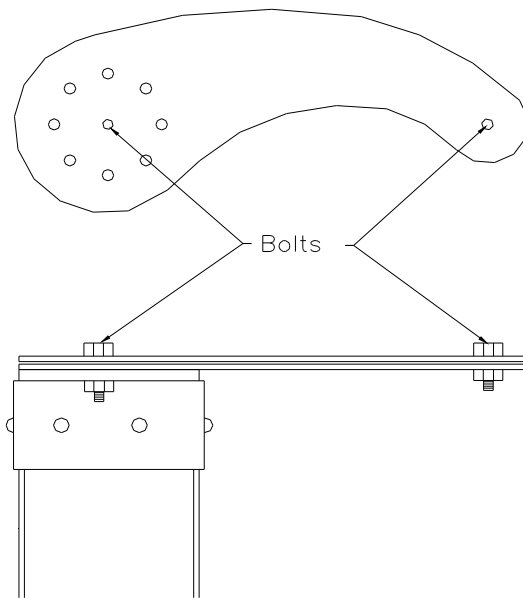

Figure 10.14.7
16) With suitable 1/4" hardware, temporarily bolt another control horn (CC-43) onto the root control horn. Figure 10.14.7.